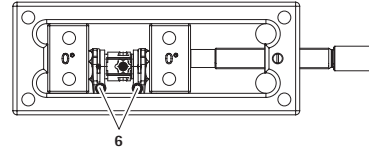

Fig. 2
- ▶ Insert setting blocks with Hydrolift® implant in the adjusting block 4 and clamp them in hand-tight using threaded rod 5, see Fig 2.